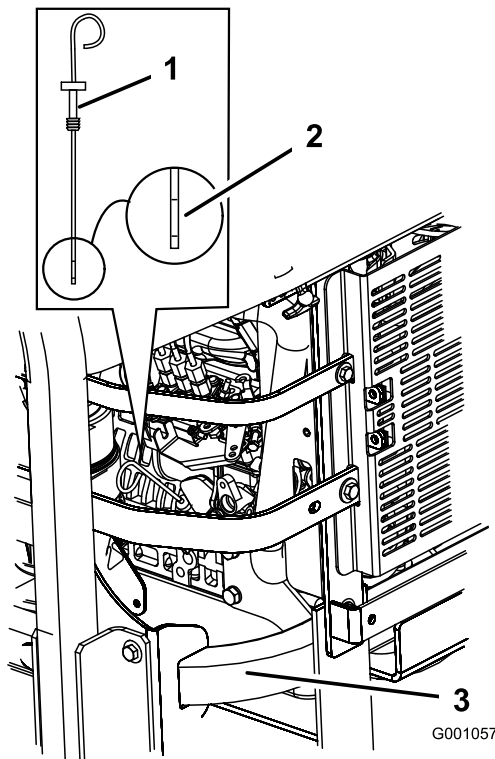

Figure 38
3. Clean around the oil dipstick (Figure 38) so dirt cannot fall into the filler hole and damage the engine.
4. Pull the oil dipstick out and wipe the metal end clean (Figure 38).
5. Slide the oil dipstick fully into the filler tube. Pull the dipstick out and look at the metal end (Figure 38). If the oil level is low, slowly pour only enough oil into the fill hole to raise the level to the full mark.